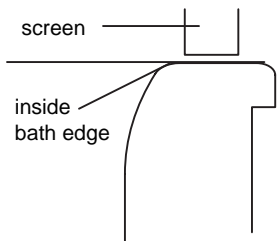

FIG 4
3. Position the wall profile **LR8387C** so the seal on the moving panel sits on the inside edge of the bath. Fig 4.